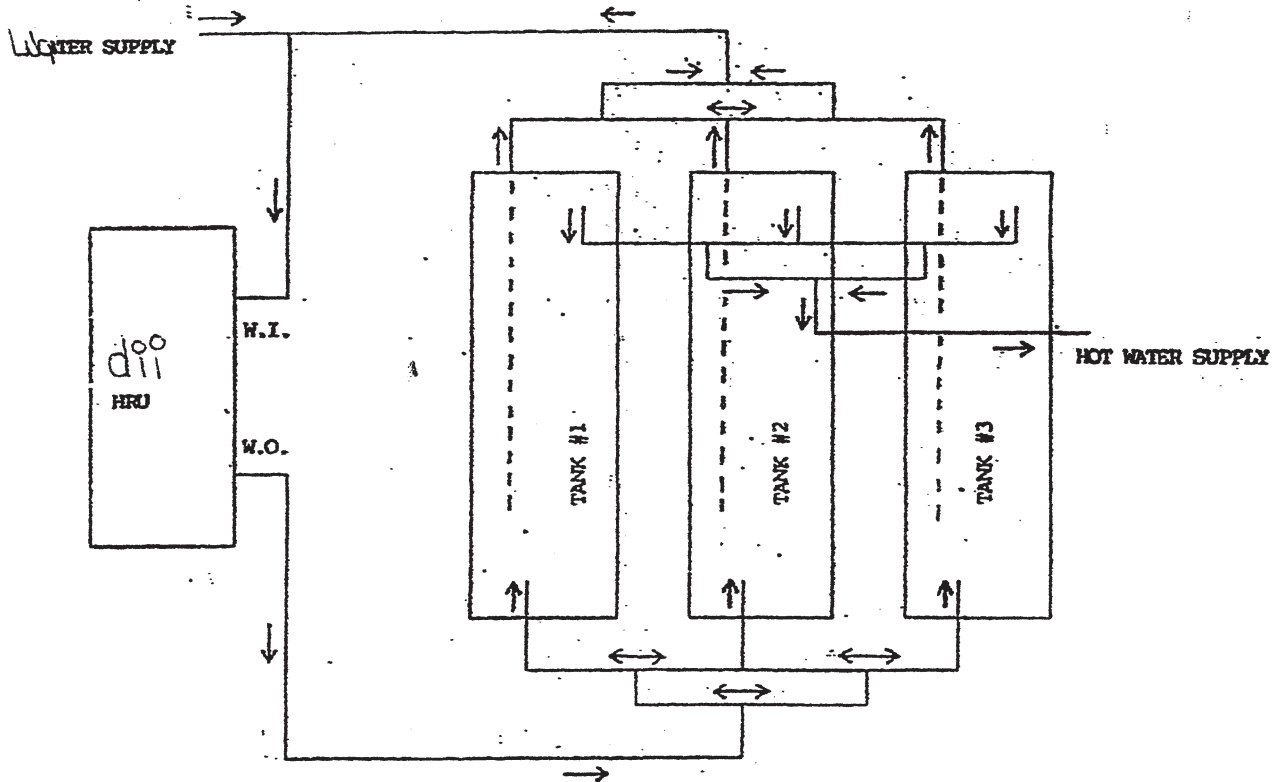

figure W-104
**MULTIPLE TANKS, PARALLEL:** Tank may be connected together in a parallel configuration to increase storage capacity. The piping should be designed to balance water flow through all tanks, and delivery of heated ( or preheated) water evenly from all tanks. (Figure W-104)